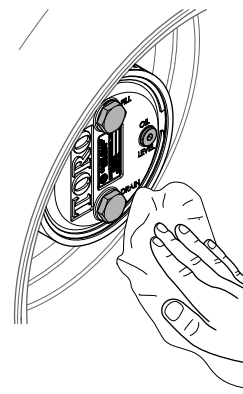

Figure 105
3. Wipe clean the planetary and brake housings (Figure 105).